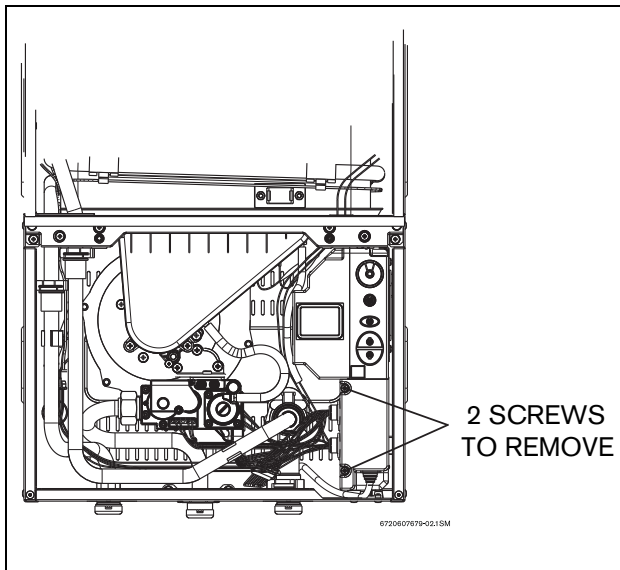

Fig. 1
- ▶ 4. Remove control board access cover (Fig. 1).
- ▶ 4. Reinstall control board access cover (Fig. 1).